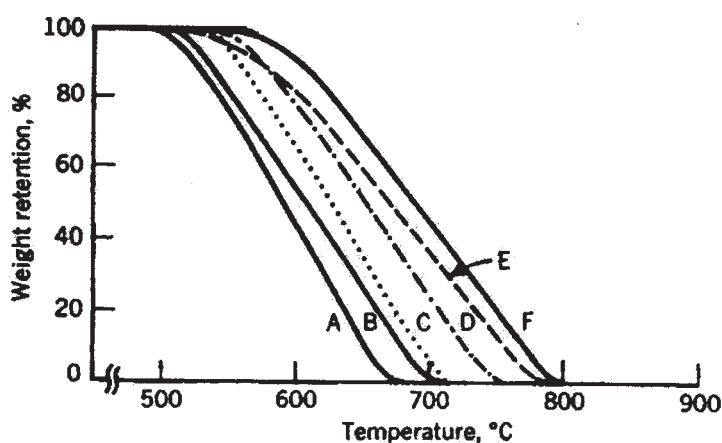

Fig. 1. Thermogravimetric analysis of polyheterocyclics.
c) Comment on suitability of given polymer for heat resistant applications by referring to thermogram given in figure 1. Justify your answer. [3]